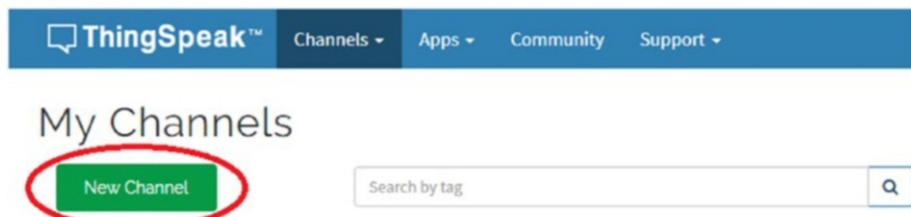

Figure 7-2. Creating a new channel
2. Under My Channels, click the New Channel button (Figure 7-2).
A screenshot of the 'New Channel' configuration page. At the top, the URL is shown as https://thingspeak.com/channels/new. The navigation bar is identical to Figure 7-2. The main title is 'New Channel'. Below the title are four form fields: